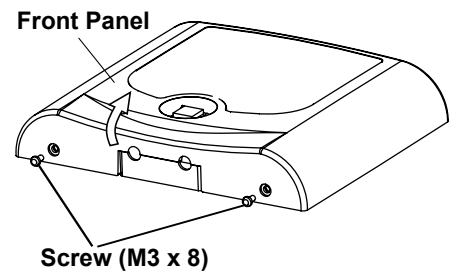
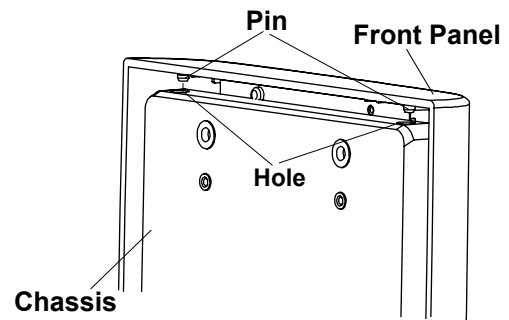

Fig.3-26 Opening Front Panel
Fig.3-29 Upper Side of Sub Controller
1. Remove two (M3 x8mm) screws under side of the controller and open the front panel. (Fig.3-26)
- Set the pins located on the upper side of the front panel into holes on the top of chassis and attach the front cover to the chassis with two (M3 x 8mm) screws. (Fig.3-26 & Fig.3-29)